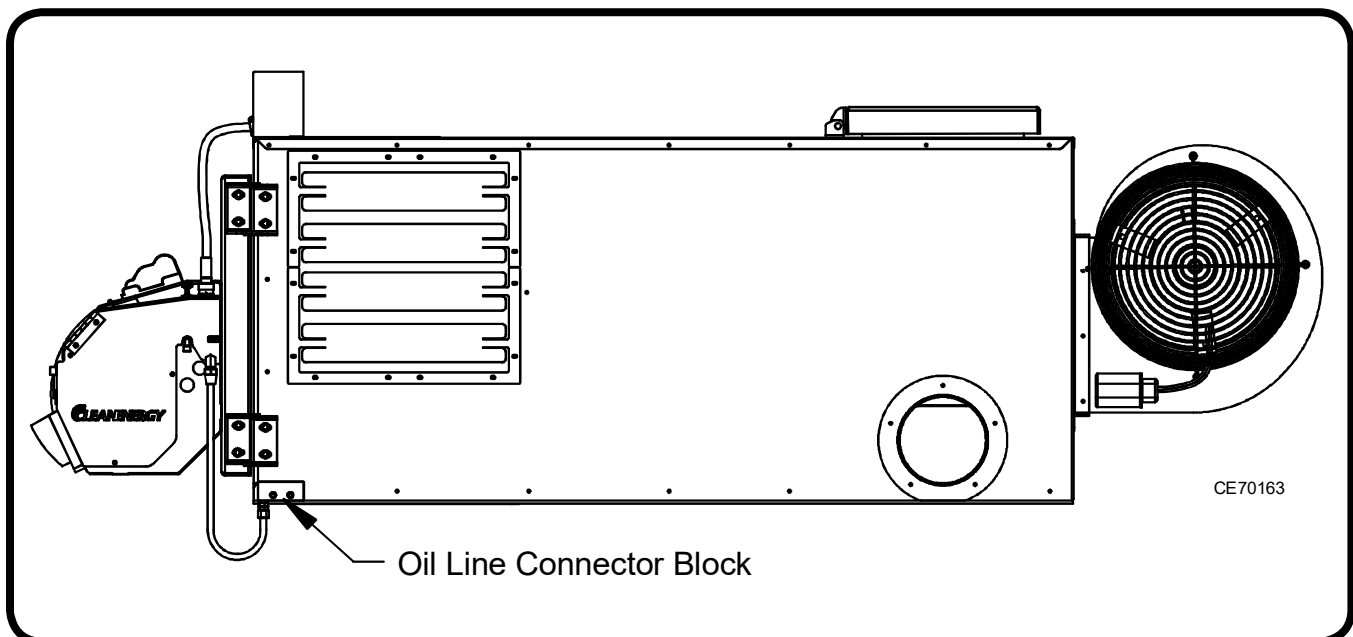

Figure 9: Installing the Connector Block and Oil Line
- (1) Refer to Figure 9 to position the connector block.
- (2) Fasten the connector block to the side of the furnace with the bolts provided.
- (3) Install the supplied 3/8" copper tubing from the swivel fitting in the connector block to the burner.